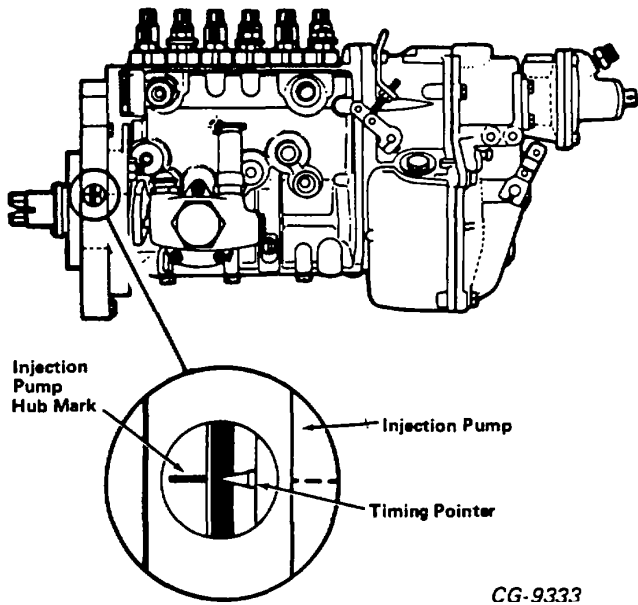

Figure 20. MW Initial Timing
2. Rotate the engine in normal operating direction until the injection pump hub mark is aligned with the injection pump timing pointer. (Refer to Figure 20.)
3. Rotate pump clockwise (as viewed from drive gear end) until timing mark on pump drive hub is aligned with timing pointer in adapter hole (Figure 20).